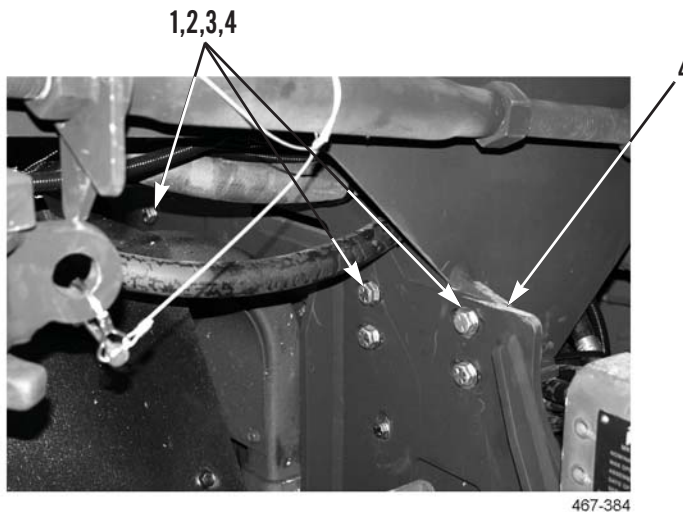

Figure 18. HEMTT Stowage Assembly Bracket.
3. Install 12 washers (Figure 18, Item 2), bolts (Figure 18, Item 1), washers (Figure 18, Item 3), and nuts (Figure 18, Item 4) on left and right stowage assembly brackets (Figure 18, Item 5).